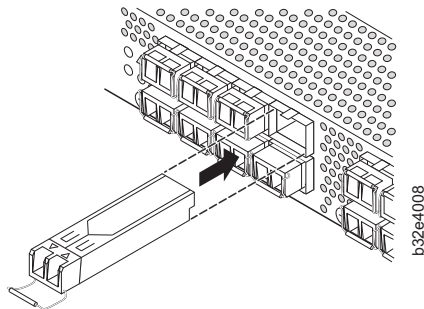

Figure 13. Installing an SFP into an upper port
2. Ensure that the bail (wire handle) is in the unlocked position. Place the SFP in the correct position on the port (Figure 13).